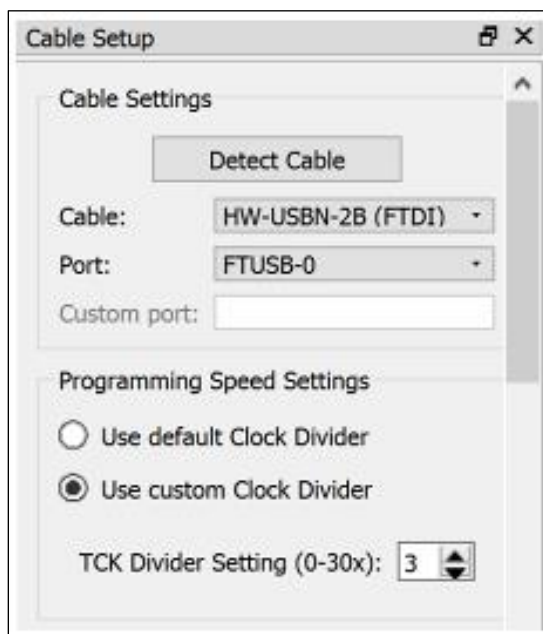

Figure 3.10. TCK Frequency Setting
1. If a verification error occurs while dumping the **.bit** file, increase the TCK frequency to above 4. The TCK Divider setting is available in the right-click menu of the Radiant Programmer window (Figure 3.10). Restart programming by clicking the **Program Device** icon .